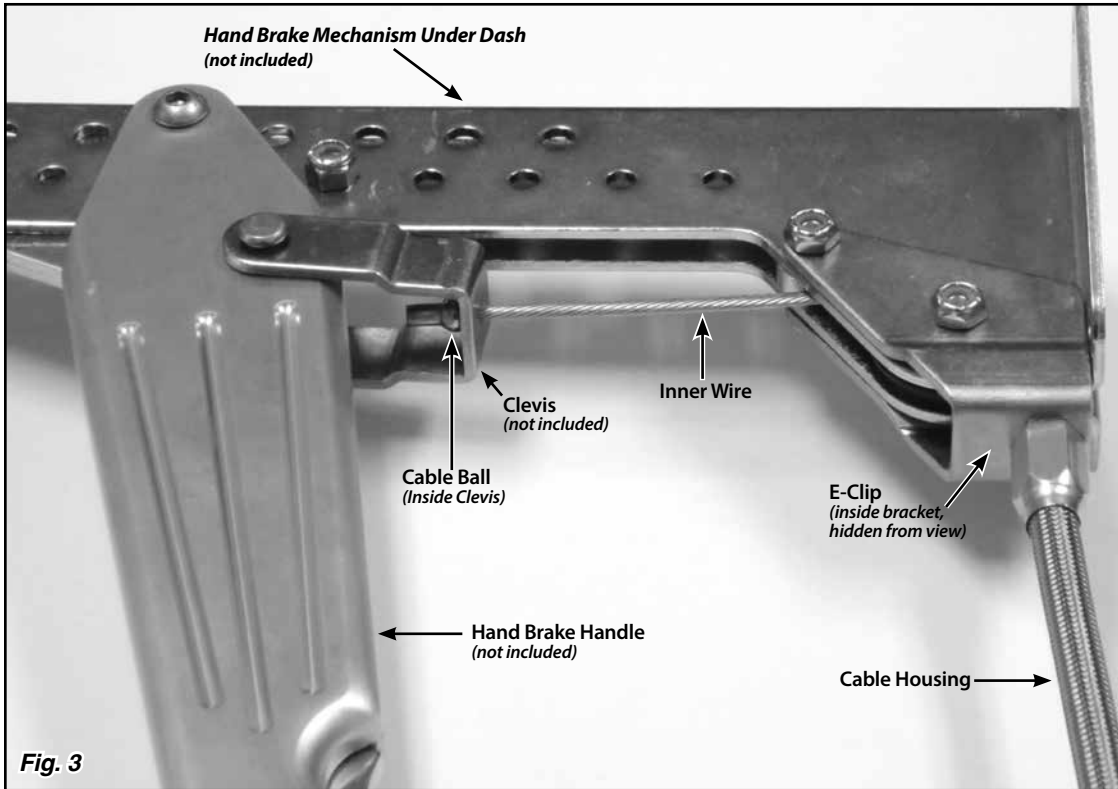
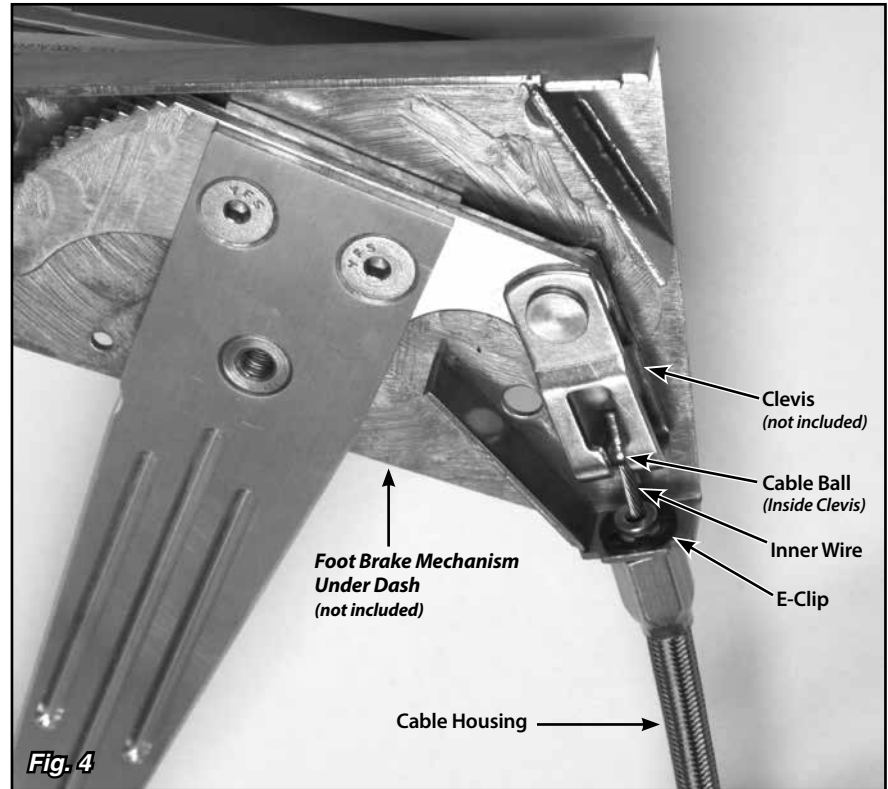

Fig. 3
Fig. 4
**Step 2:** Remove the E-clip from the end of the cable housing. Insert the cable housing into the hand or foot brake mechanism under the dash, and secure the cable housing with the E-clip as shown in Fig. 3 (Hand Brake) or Fig. 4 (Foot Brake).